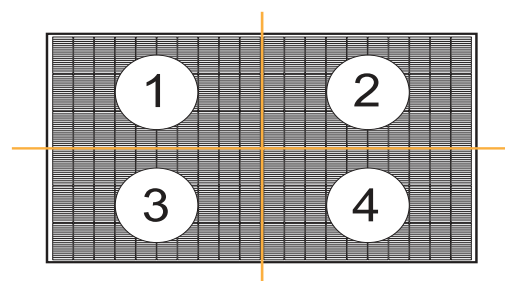

Figure 8. Module quarter division
- The module must be secured, e.g., clamped, at least once in each of the four marked zones shown below (Figure. 8).
Once a module is secured in each of the 4 zones (Figure 8.), additional clamps, i.e., ≥5 may be freely located on panel frame without affecting the warranty. Loads marked with a * were not certified as part of UL 61730 testing; these have been evaluated by internal testing process.
Once a module is secured in each of the 4 zones (Figure 8), additional clamps, i.e., ≥5 may be freely located on panel frame without affecting the warranty. Loads marked with a * were not certified as part of UL 61730 testing; these have been evaluated by internal testing process.
Once a module is secured in each of the 4 zones (Figure 8.), additional clamps, i.e., ≥5, may be freely located on panel frame without affecting the warranty. Loads marked with a * were not certified as part of UL 61730 testing; these have been evaluated by internal testing process.